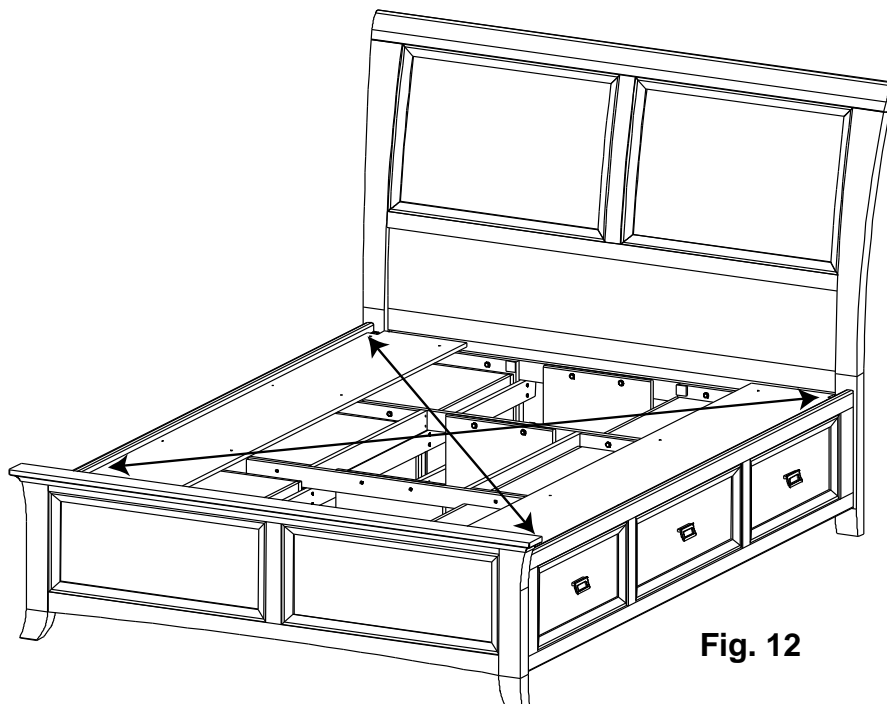

Fig. 12
12. To make sure the bed is square, measure the distance between opposing corners. If one of the measurements is larger, tap on a footboard leg until the measurement is equal. See Figure 12.